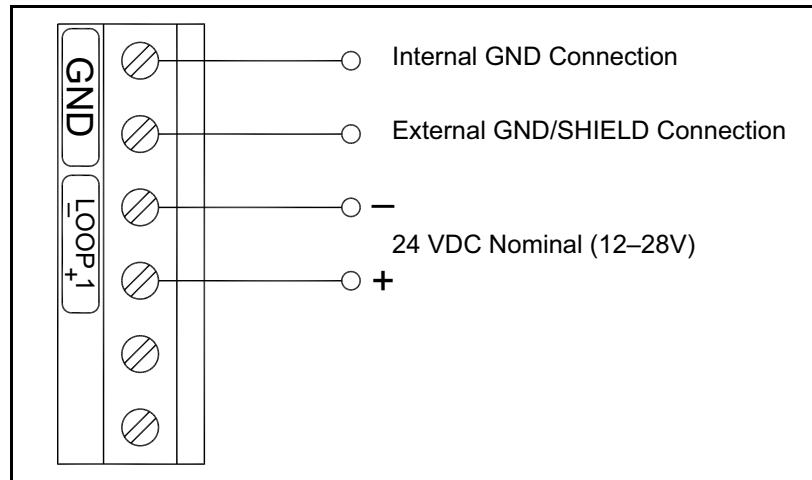

Figure 7: Electrical Connections - One Current Loop
To wire the MMR31, refer to *Figure 7* below and complete the following steps:
5. Connect the wires to the MMR31 terminals as shown in *Figure 7* below.